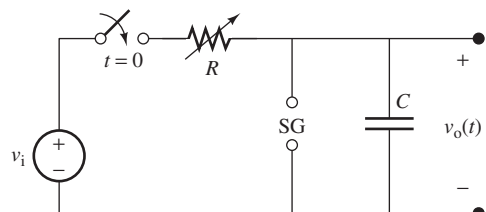
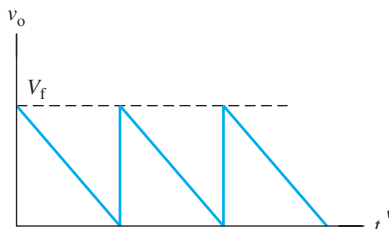

FIGURE P5.13 A sawtooth signal generator (SG).
FIGURE P5.17 The sawtooth wave for Problem 5.17.
The voltage, $v_o(t)$, across the capacitor, C , in the circuit shown in Figure P5.13 is a sawtooth waveform. The resistor, R , is adjustable. An SG represents a spark gap, which consists of two electrodes with adjustable distance. When the voltage across the SG is small, the SG is open. When that voltage exceeds the breakdown voltage, V_f , a spark will jump across the electrodes so that SG gets short-circuited. When the voltage across SG drops to zero, the SG is an open circuit. Close the switch at $t = 0$ and draw the waveform of $v_o(t)$.
5.17 (H) Given the circuit shown in Figure P5.13, assume that you are provided with an extra voltage source supplying v_f . Use these components to design and sketch a new circuit that can generate a voltage waveform v_o as shown in Figure P5.17.